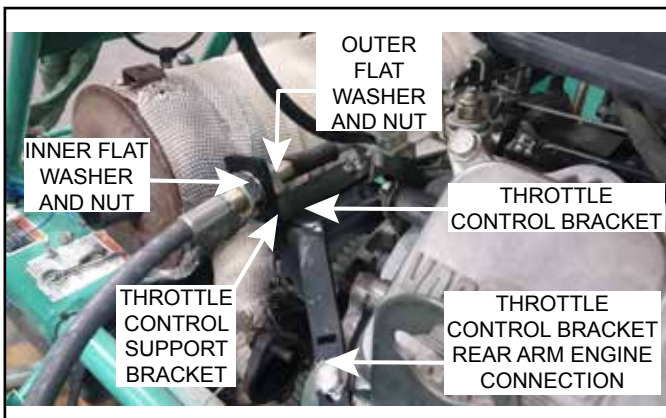

Figure 15. Throttle Installation and Securing
- Insert the threaded portion of the throttle cable into the cable slot on the throttle control support bracket as shown in Figure 15.
- Using two wrenches, tighten the inner and outer flat washers and nuts against the throttle control support bracket as shown in Figure 15.